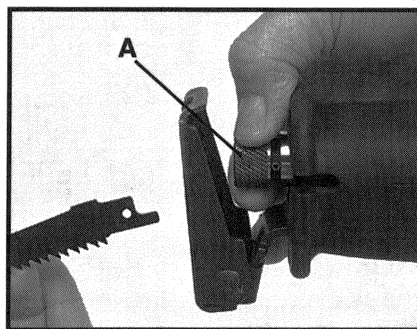

Fig. 4
3. To open the blade clamp: rotate and hold the blade release collar (A) Fig. 4, counterclockwise (as viewed from the front of the saw).